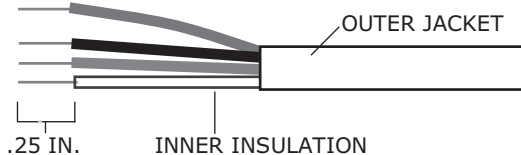

Fig. 26 — Rnet Cable Wire
2. Strip about 1/4 in. of the inner insulation from each wire. See Fig. 26.